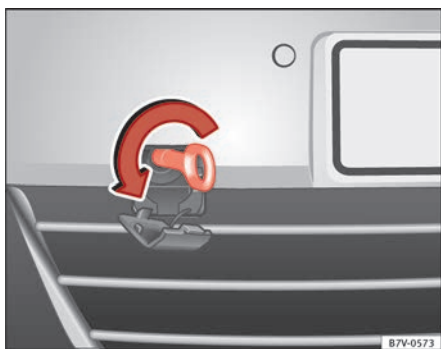

Fig. 218 On the right-hand side of the front bumper: Screw in the towing ring.
The location for the removable tow ring is on the right-hand side of the front bumper ⇒ **fig. 218**.
- Screw in the tow ring into its position **anticlockwise** as far as it will go ⇒ **fig. 218** ⇒ . Use a suitable tool to firmly tighten the tow ring in its location.